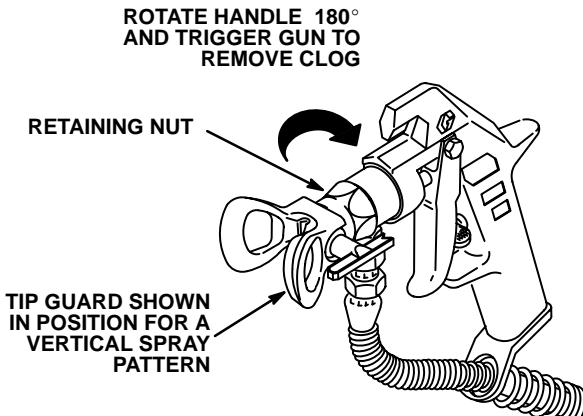

Fig 11-2
- c. If using the RAC IV Spray Tip Kit, rotate the RAC IV handle 180°. See Fig 11-2. Disengage the trigger safety latch. Trigger the gun into a grounded waste container. Engage the trigger safety latch again. Return the handle to the original position.
- c. Test the spray pattern. To adjust the direction of the spray pattern, engage the trigger safety latch and loosen the retaining nut. Position the tip guard horizontally for a horizontal pattern or vertically for a vertical pattern. Then tighten the retaining nut. See Fig 11-2.